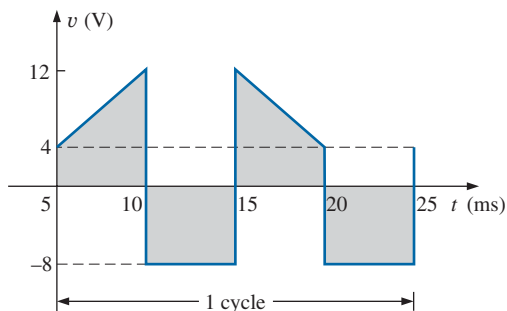

FIG. 13.102
45. Find the average value of the periodic function of Fig. 13.102: